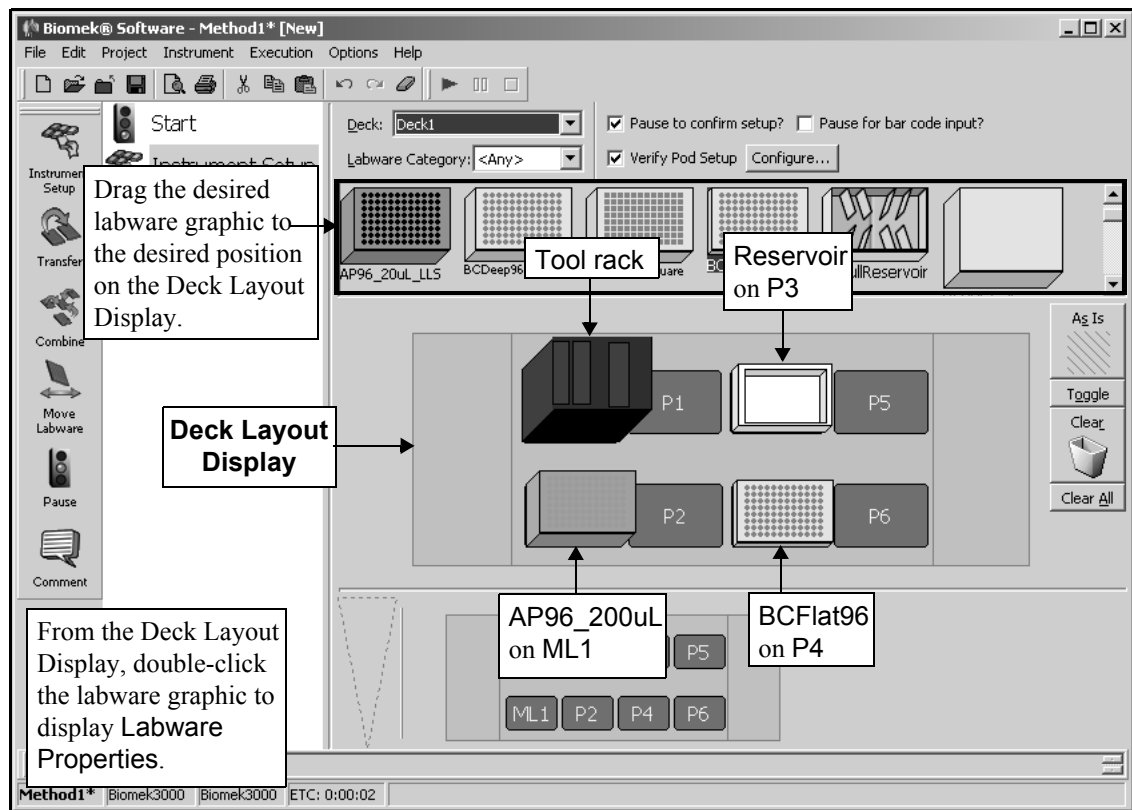

Figure 2-3. Instrument Setup step with labware added
- a **BCFlat96** to P4. Your screen should look similar to Figure 2-3.